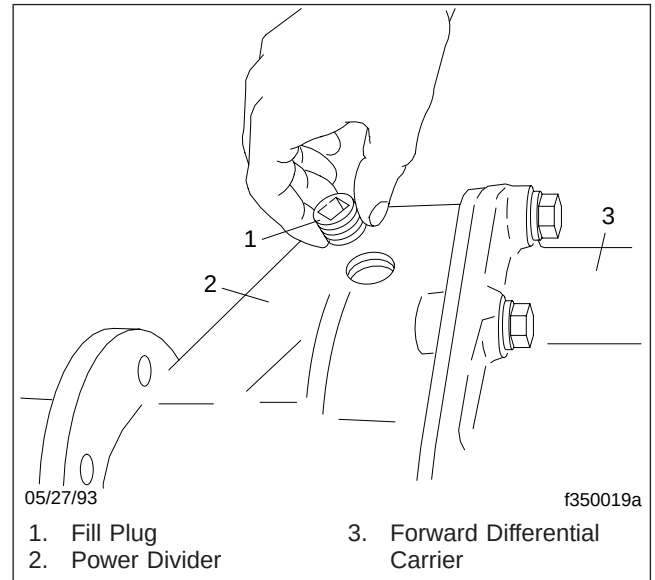

Fig. 7, Power Divider Fill Plug
- 8.3 For forward drive axles, remove the power divider fill plug, located slightly off-set to the right in the top portion of the forward differential carrier. See **Fig. 7**. Add two pints (1 L) of lubricant through this fill hole. Do not use the hole at the top of the differential carrier as a fill hole. Install and tighten the fill plug 40 to 60 lbf·ft (54 to 81 N·m).